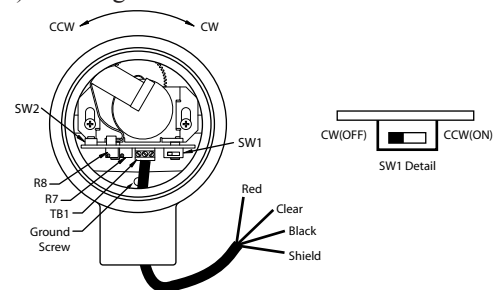

Figure 4:
- See Figure 4 below for related information.
This provides access to the edge of the SG1000E's printed circuit board, namely the direction switch SW1 (the slide switch), and the calibration switch SW2 (the push-button switch). See Figure 4 for locations of these switches.
- If the encoder shaft turns in the CW direction as the process shaft is moved from the fully-closed to the fully-open position, then set SW1 to the OFF position (i.e., toward the center of the PC board). See Figure 4.
- If the encoder shaft turns in the CCW direction as the process shaft is moved from the fully-closed to the fully-open position, then set SW1 to the ON position (i.e., toward the edge of the PC board). See Figure 4.
- D) Assuming conditions (A), (B), and (C) are proper, and your SG1000E still seems to behave improperly, then try re-calibrating again, paying close attention to the eight calibration steps.
- 2) If you have gone through troubleshooting hints (1A), (1B), (1C), and (1D), and if your SG1000E seems to otherwise respond properly, from fully-closed to fully-open, with the only exception being that strange values other than 4 mA and 20 mA are output for the fully-closed/fully-open positions (e.g., 3 mA at one-end and 23 mA at the other-end), then possibly the R7 and R8 factory potentiometer settings have been tampered with. See Figure 4 for location of these pots.